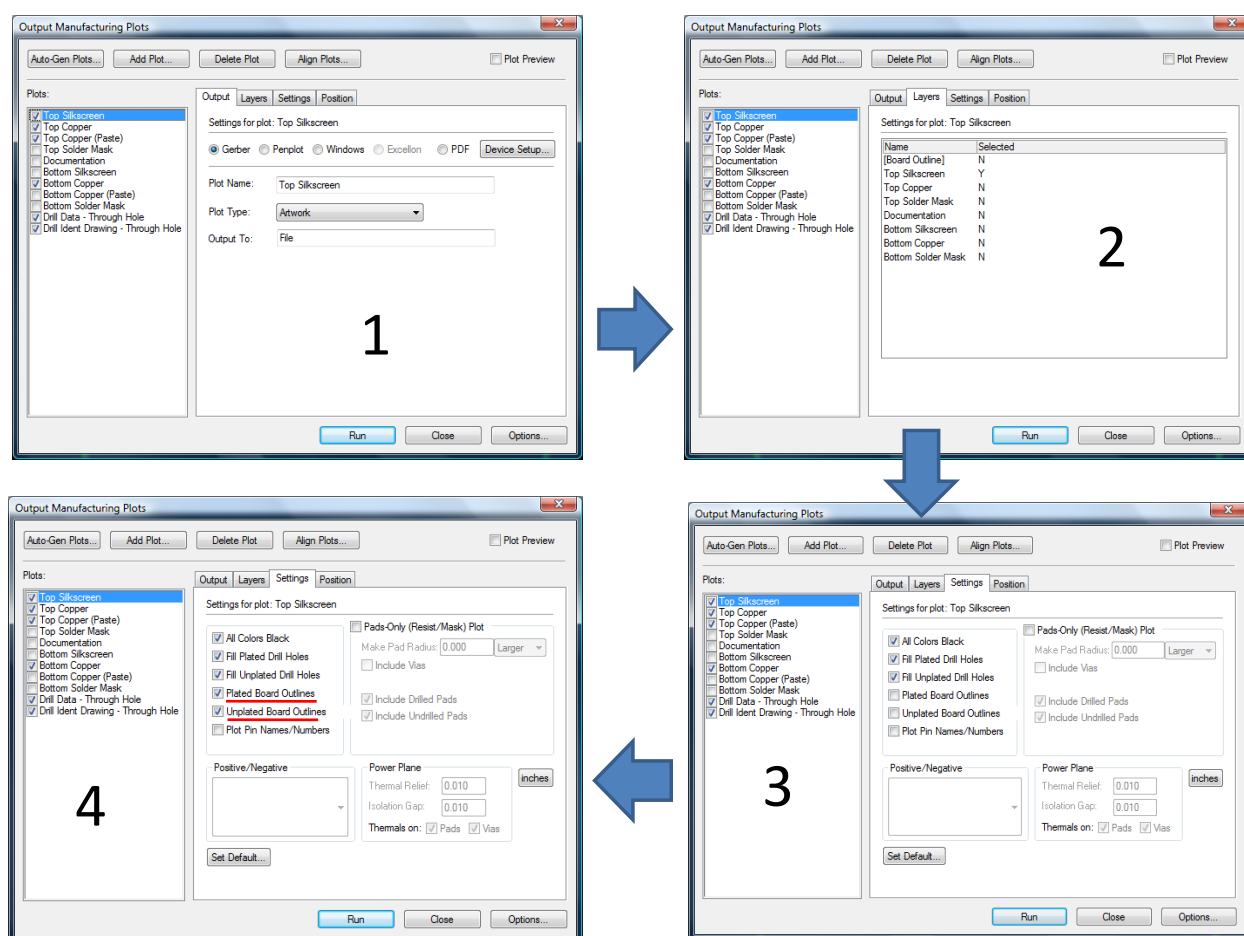

Figure 6-9: Manufacturing Files 2
5. Figure 6-9 (image 1) shows the different plot outputs as well as the formats, for which we require the Gerber format.